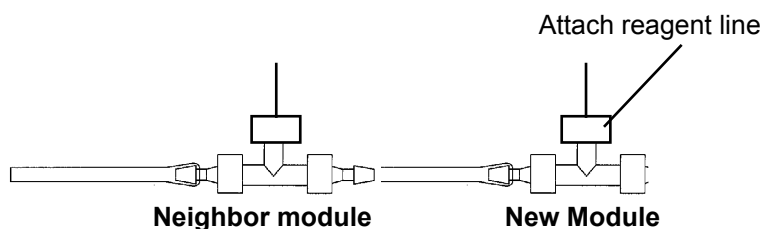

Figure 15. Connecting Two Modules Together
- 77 Connect the line for reagent 1 from the new module to the manifold (Figure 15). Use the labels in the startup kit to help identify lines.